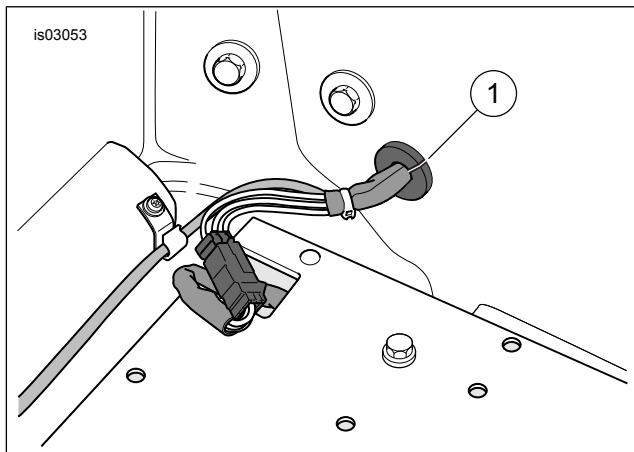

Figure 6. Split Grommet
1. See Figure 6. Remove the large split grommet (1) from the corner of the Tour-Pak.